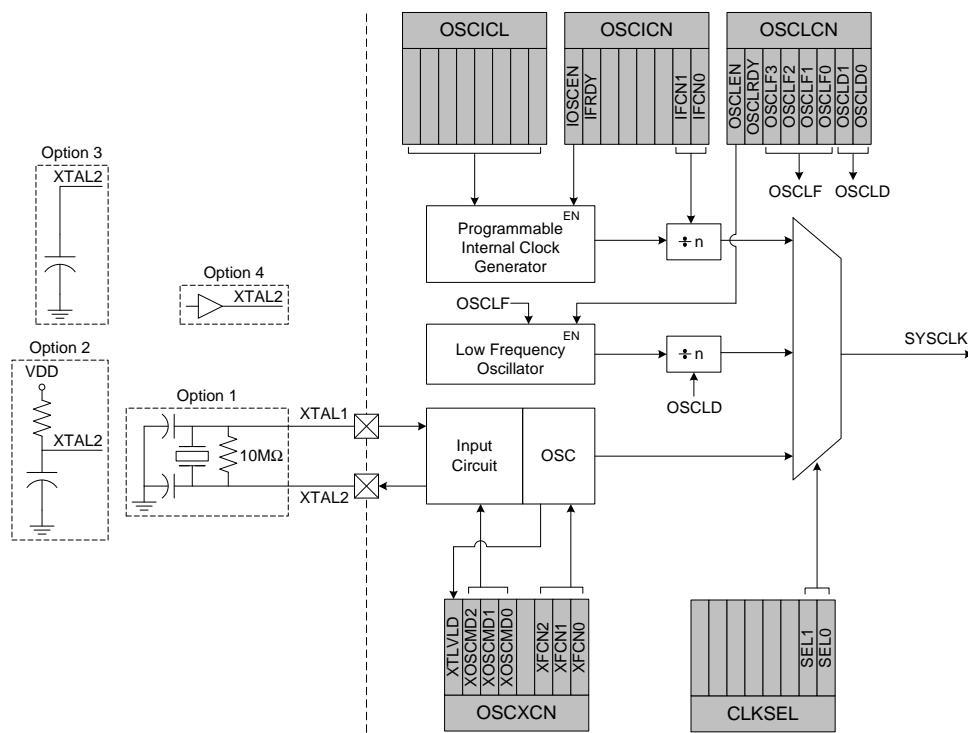
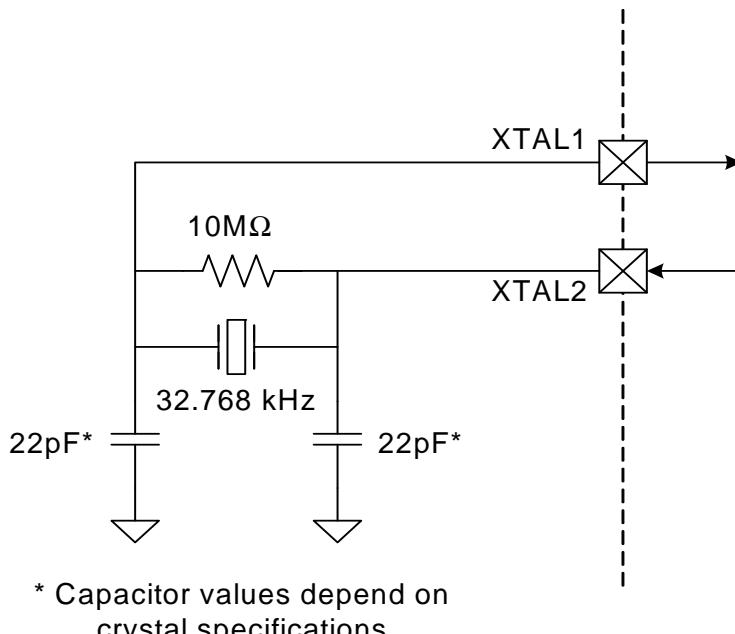

Figure 13.1. Oscillator Diagram
Figure 13.2. External 32.768 kHz Quartz Crystal Oscillator Connection Diagram
C8051F330/1/2/3/4/5 devices include a programmable internal high-frequency oscillator, a programmable internal low-frequency oscillator, and an external oscillator drive circuit. The internal high-frequency oscillator can be enabled/disabled and calibrated using the OSCICL and OSCICL registers, as shown in Figure 13.1. The internal low-frequency oscillator can be enabled/disabled and calibrated using the OSCLCN register, as shown in SFR Definition 13.3. The system clock can be sourced by the external oscillator circuit or either internal oscillator. Both internal oscillators offer a selectable post-scaling feature. The internal oscillators' electrical specifications are given in Table 13.1 on page 122.
The external oscillator circuit may drive an external crystal, ceramic resonator, capacitor, or RC network. A CMOS clock may also provide a clock input. For a crystal or ceramic resonator configuration, the crystal/resonator must be wired across the XTAL1 and XTAL2 pins as shown in Option 1 of Figure 13.1. A 10 MΩ resistor also must be wired across the XTAL2 and XTAL1 pins for the crystal/resonator configuration. In RC, capacitor, or CMOS clock configuration, the clock source should be wired to the XTAL2 pin as shown in Option 2, 3, or 4 of Figure 13.1. The type of external oscillator must be selected in the OSCXCN register, and the frequency control bits (XFCN) must be selected appropriately (see SFR Definition 13.4).
CRYSTAL MODE (Circuit from Figure 13.1, Option 1; XOSCMD = 11x) Choose XFCN value to match crystal frequency.
RC MODE (Circuit from Figure 13.1, Option 2; XOSCMD = 10x) Choose XFCN value to match frequency range: $f = 1.23(10^3) / (R * C)$, where f = frequency of clock in MHz C = capacitor value in pF R = Pullup resistor value in kΩ
C MODE (Circuit from Figure 13.1, Option 3; XOSCMD = 10x) Choose K Factor (KF) for the oscillation frequency desired: $f = KF / (C * V_{DD})$, where f = frequency of clock in MHz C = capacitor value the XTAL2 pin in pF V_{DD} = Power Supply on MCU in volts
If a crystal or ceramic resonator is used as an external oscillator source for the MCU, the circuit should be configured as shown in Figure 13.1, Option 1. The External Oscillator Frequency Control value (XFCN) should be chosen from the Crystal column of the table in SFR Definition 13.4 (OSCXCN register). For example, an 11.0592 MHz crystal requires an XFCN setting of 111b and a 32.768 kHz Watch Crystal requires an XFCN setting of 001b. After an external 32.768 kHz oscillator is stabilized, the XFCN setting can be switched to 000 to save power. It is recommended to enable the missing clock detector before switching the system clock to any external oscillator source.
For example, a tuning-fork crystal of 32.768 kHz with a recommended load capacitance of 12.5 pF should use the configuration shown in Figure 13.1, Option 1. The total value of the capacitors and the stray capacitance of the XTAL pins should equal 25 pF. With a stray capacitance of 3 pF per pin, the 22 pF capacitors yield an equivalent capacitance of 12.5 pF across the crystal, as shown in Figure 13.2.
If an RC network is used as an external oscillator source for the MCU, the circuit should be configured as shown in Figure 13.1, Option 2. The capacitor should be no greater than 100 pF; however for very small capacitors, the total capacitance may be dominated by parasitic capacitance in the PCB layout. To determine the required External Oscillator Frequency Control value (XFCN) in the OSCXCN Register, first select the RC network value to produce the desired frequency of oscillation. If the frequency desired is 100 kHz, let R = 246 kΩ and C = 50 pF:
If a capacitor is used as an external oscillator for the MCU, the circuit should be configured as shown in Figure 13.1, Option 3. The capacitor should be no greater than 100 pF; however for very small capacitors, the total capacitance may be dominated by parasitic capacitance in the PCB layout. To determine the required External Oscillator Frequency Control value (XFCN) in the OSCXCN Register, select the capacitor to be used and find the frequency of oscillation from the equations below. Assume V_{DD} = 3.0 V and f = 150 kHz: